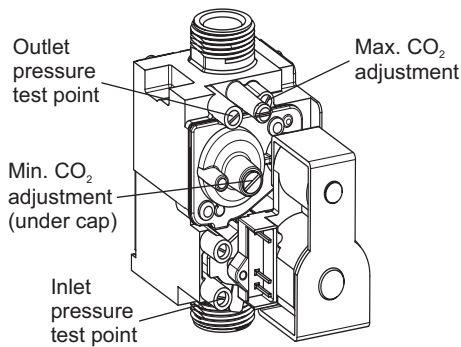

Fig. 19
2. Loosen the gas inlet pressure test point screw on the gas valve (see Fig. 19) and purge in accordance with BS 6891.
5.6 CHECK THE BURNER PRESSURES AND COMBUSTION - Figs. 19 and 20